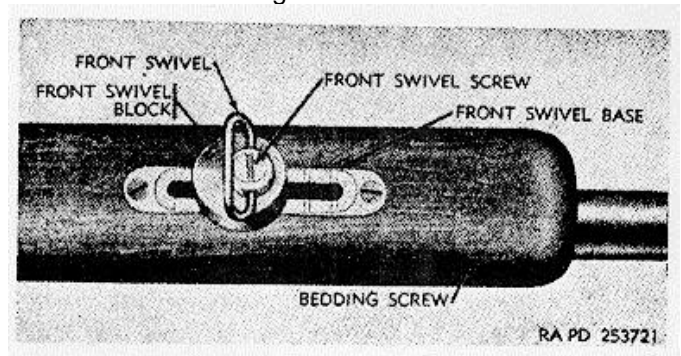

Figure 63. Front swivel assembly (Remington)
- (5) Remove front swivel screw and remove front swivel block and front swivel nut.
- (6) Remove front swivel, base screws, and base (fig. 63).
- (7) Remove barrel bedding screws (fig. 63) and spring.